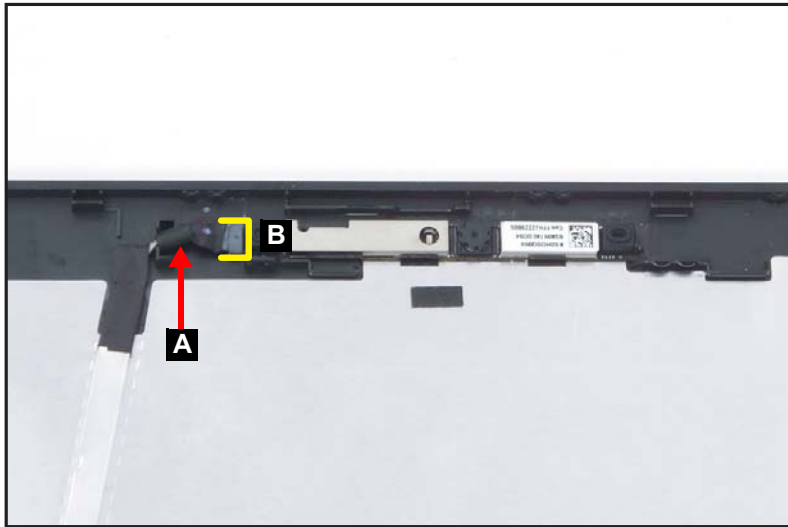

Figure 1-69. Camera Connector Location
2. Connect the eDP cable (A) to the camera module connector (B) (Figure 1-69).